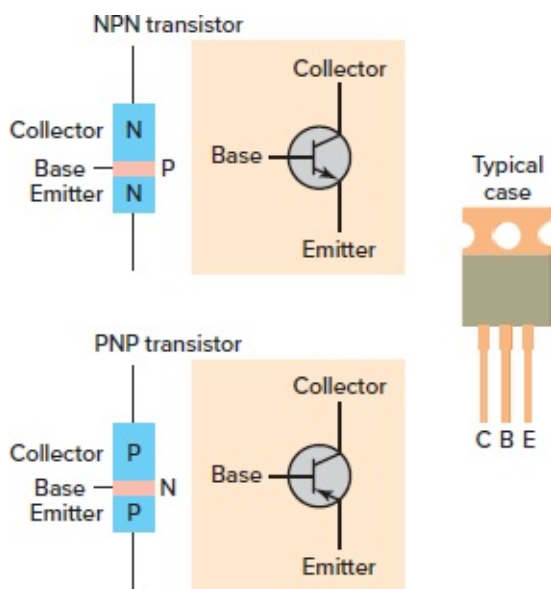

Figure 9-16 Bipolar junction transistor (BJT).
A bipolar junction transistor (BJT) consists of a three-layer sandwich of doped semiconductor materials consisting of an **emitter** (E), a **base** (B), and a **collector** (C). The emitter layer is medium in size, the base is very thin, and the collector is large. There are two major types of bipolar transistors, called **NPN** and **PNP**, as illustrated in Figure 9-16. The letters refer to the layers of semiconductor material used to make the transistor. The functional difference between an NPN transistor and a PNP transistor is the proper biasing (polarity) of the junctions when operating. For any given state of operation, the current directions and voltage polarities for each kind of transistor are exactly opposite each other. Bipolar transistors are so named because the controlled current must go through two types of semiconductor material, P and N.